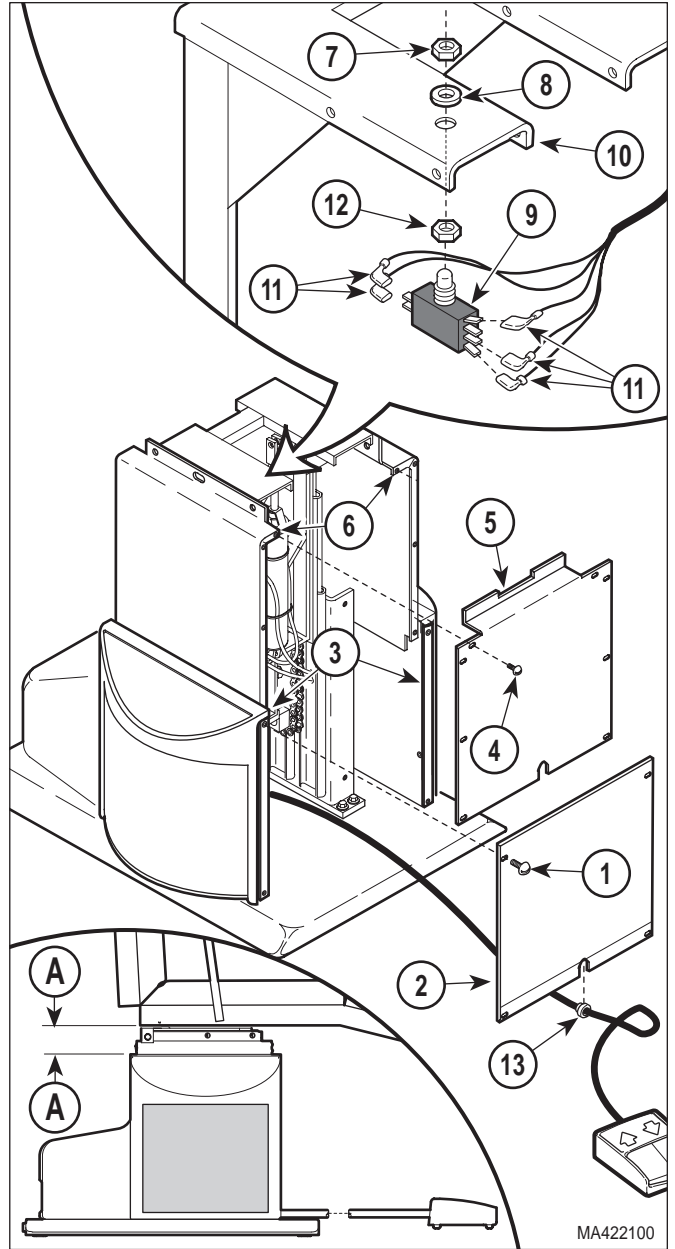

Figure 4-26. Tilt Down Limit Switch Removal / Installation
- (1) Unplug power cord from wall outlet.
- (2) Remove four screws (1, Figure 4-26) and front outer shroud (2) from left and right hand outer shrouds (3).
- (3) Remove eight screws (4) and front inner shroud (5) from left and right hand inner shrouds (6).
- (4) Remove nut (7), lockwasher (8), and tilt down limit switch (9) from inner member (10).
- (5) Tag and disconnect five wires (11) from terminals of tilt down limit switch (9).